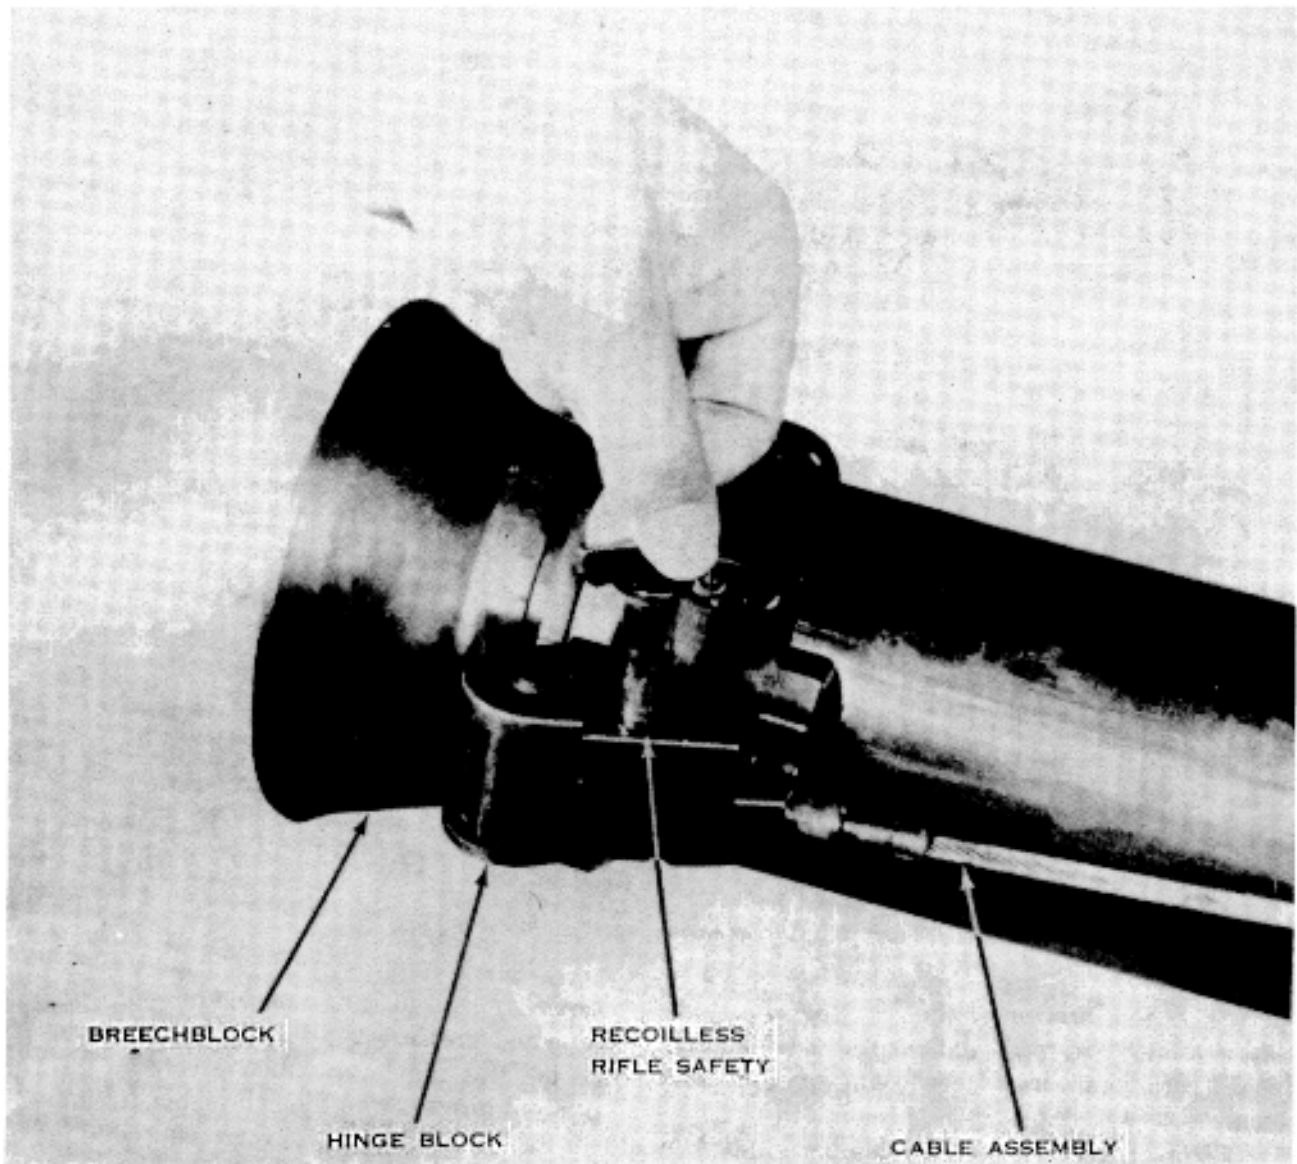

Figure 8. Removing and installing the safety mechanism.
*** (c) Rotate the safety (3, fig. 6) 45 degrees counterclockwise from the FIRE position; pull up and remove (fig. 8). The hinge block end of the cable assembly is now free.